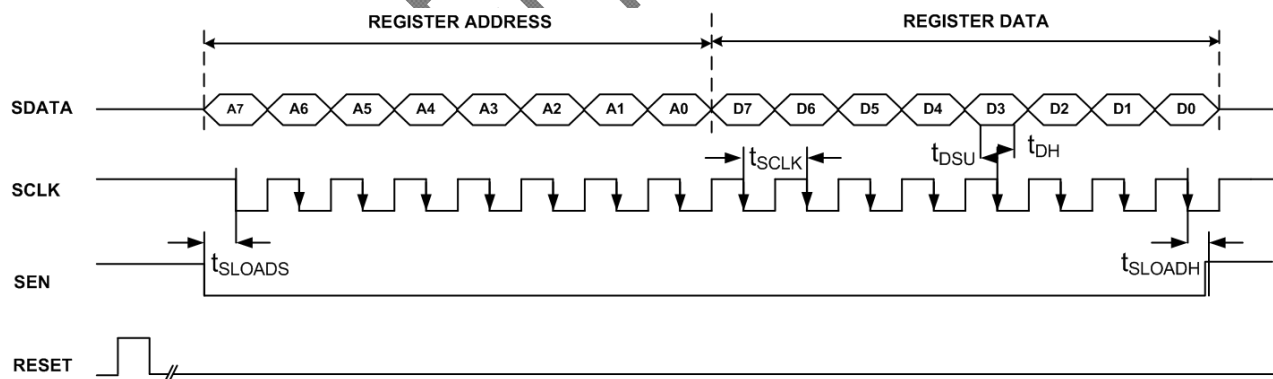

Figure 6 Serial Interface Timing
- 1) Either through hardware reset by applying a high-going pulse on RESET pin (of width greater than 10ns) as shown in Figure 6